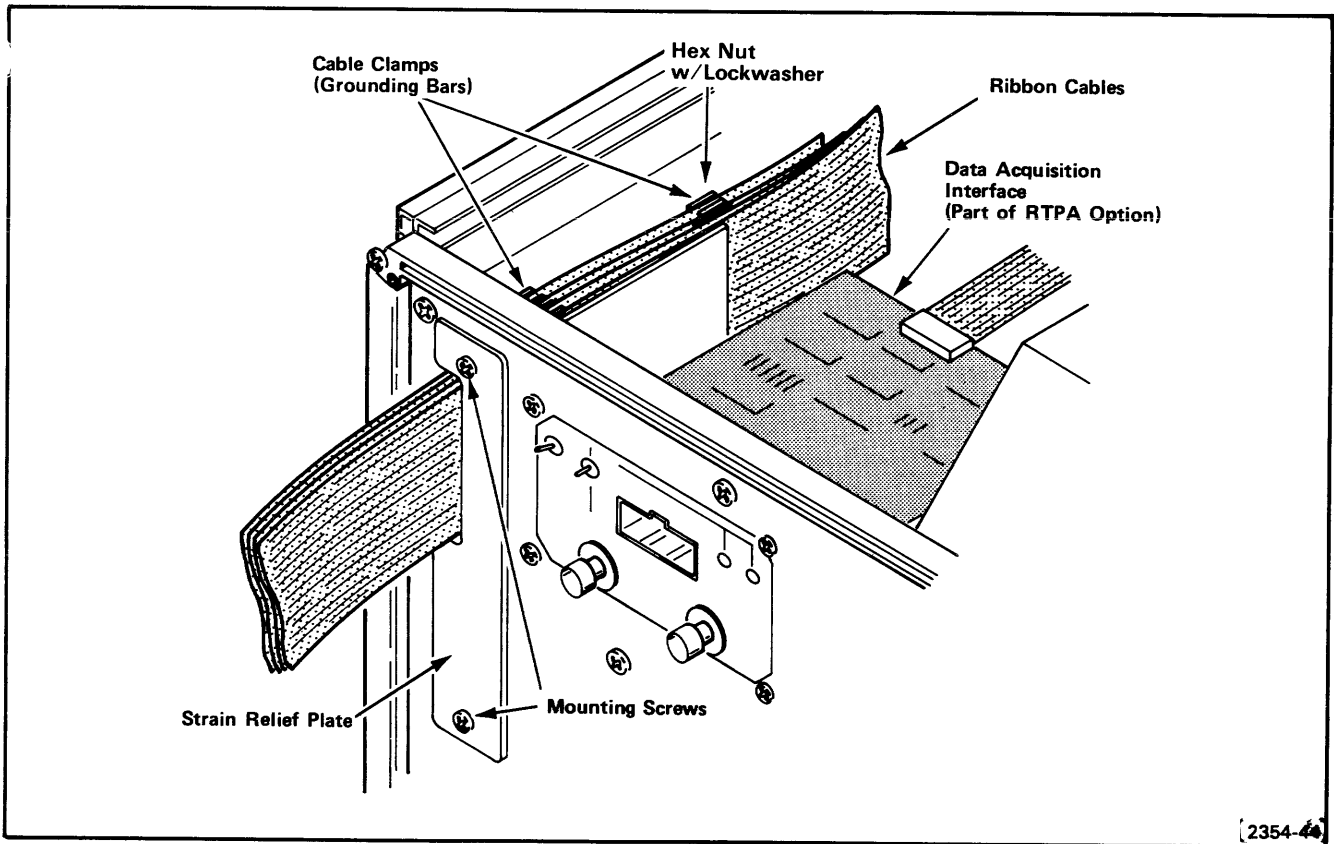

Fig. 3-3. Ribbon cable installation and grounding.
6. Remove the two mounting screws at the top and bottom of the strain relief plate (Fig. 3-3), then remove the strain relief/cable clamp assembly from the rear panel.
8. Mount the grounding plates of the long Prototype Control Probe ribbon cables on the cable clamp assembly; use one grounding bar for each ribbon cable. Secure the cable clamps with hex nuts (with lock washers). (Refer to Fig. 3-3).
17. Guide the strain relief/cable clamp assembly into the cableway opening, then attach the strain relief plate to the rear panel, using the two screws removed in step 6 (Fig. 3-3).
- When installing a Prototype Control Probe, tighten the two strain relief plate mounting screws (Fig. 3-3) securely